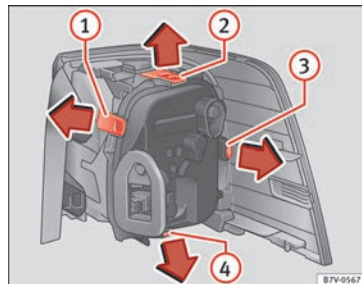

Fig. 113 Rear lights in the body: Remove the bulb holder. ① to ④: Attachment tab
8.	To release the bulb holder, press on the attachment tabs » Fig. 113 ① to ④ in the direction of the arrow.